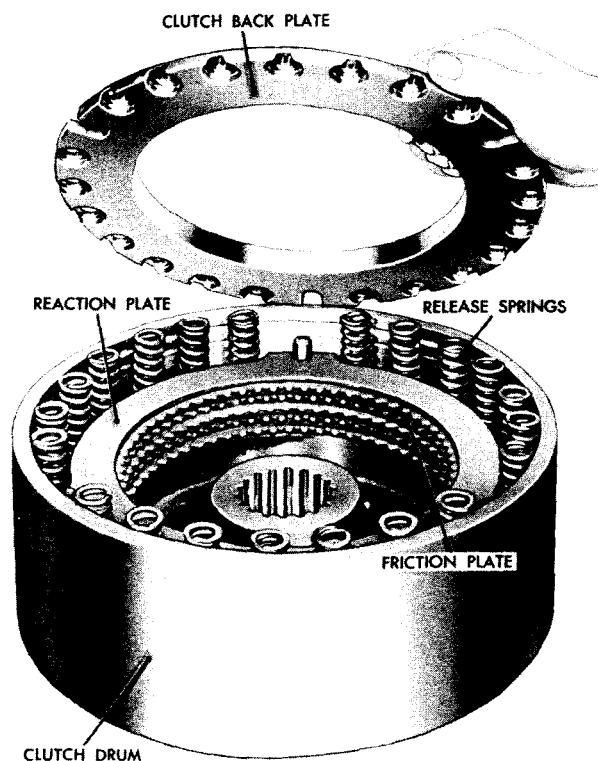
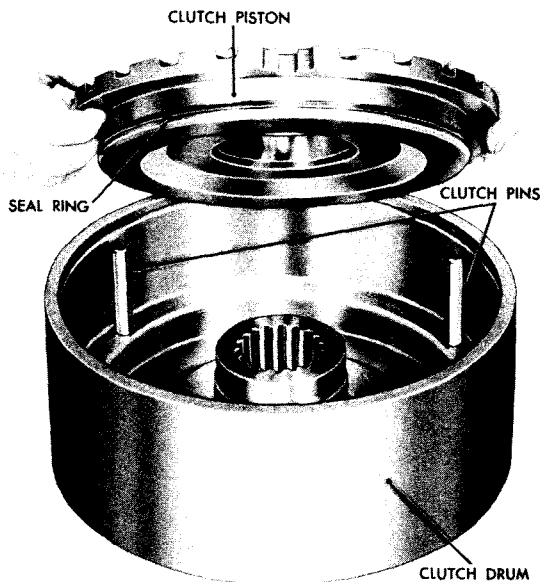

Fig IX-11. Removing (or installing) clutch reaction plate
Fig IX-12. Removing (or installing) clutch piston
(4) Remove the clutch back plate (fig. IX-11), the clutch reaction plates, the clutch friction plates, the clutch release springs, and the clutch piston (fig. IX-12).
(9) Install the clutch piston with the seal rings in the groove of the piston and the groove of the clutch drum (fig. IX-12).
(10) Install six clutch reaction plates alternated with five clutch friction plates, beginning with a reaction plate (fig. IX-11).
(11) Install 21 clutch release springs in the clutch piston (fig. IX-11).
(12) Install the clutch back plate (fig. IX-11).
(13) Place the disconnect clutch assembly in a press, and press down on the clutch